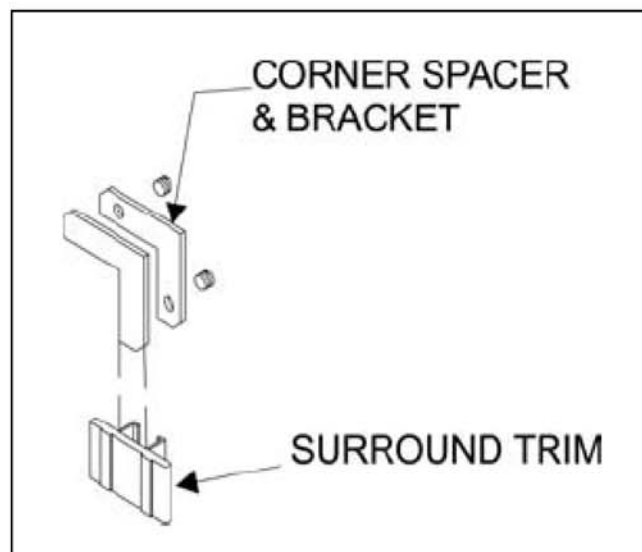

FIGURE 2
1. Assemble the surround by aligning the 45-degree corners of the top trim piece with the 45-degree corners of the right and left side pieces. Slide the corner angle brackets inside the channel at the back of the trim pieces and tighten the set screws. See Figure 2.